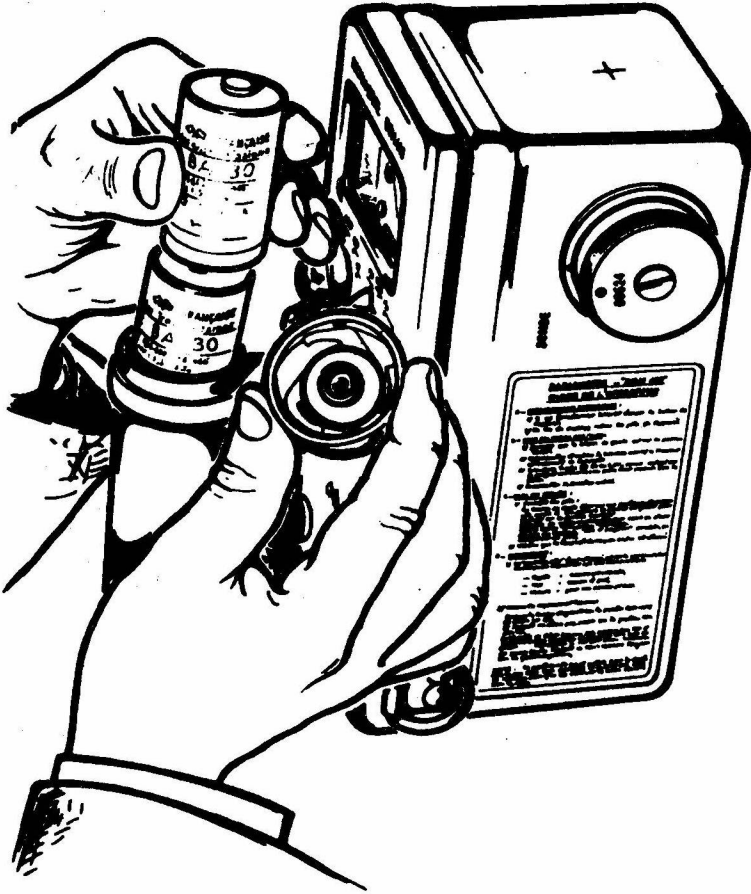

Fig. 5 — DOM 410 RADIATION METER (INSTALLATION OF BATTERIES)
- Insert two 1.5 V type BA-30, dry batteries as shown in the diagram placed on the battery-container handle, i.e. — terminal (metal cap) facing knurled cap (fig.5).